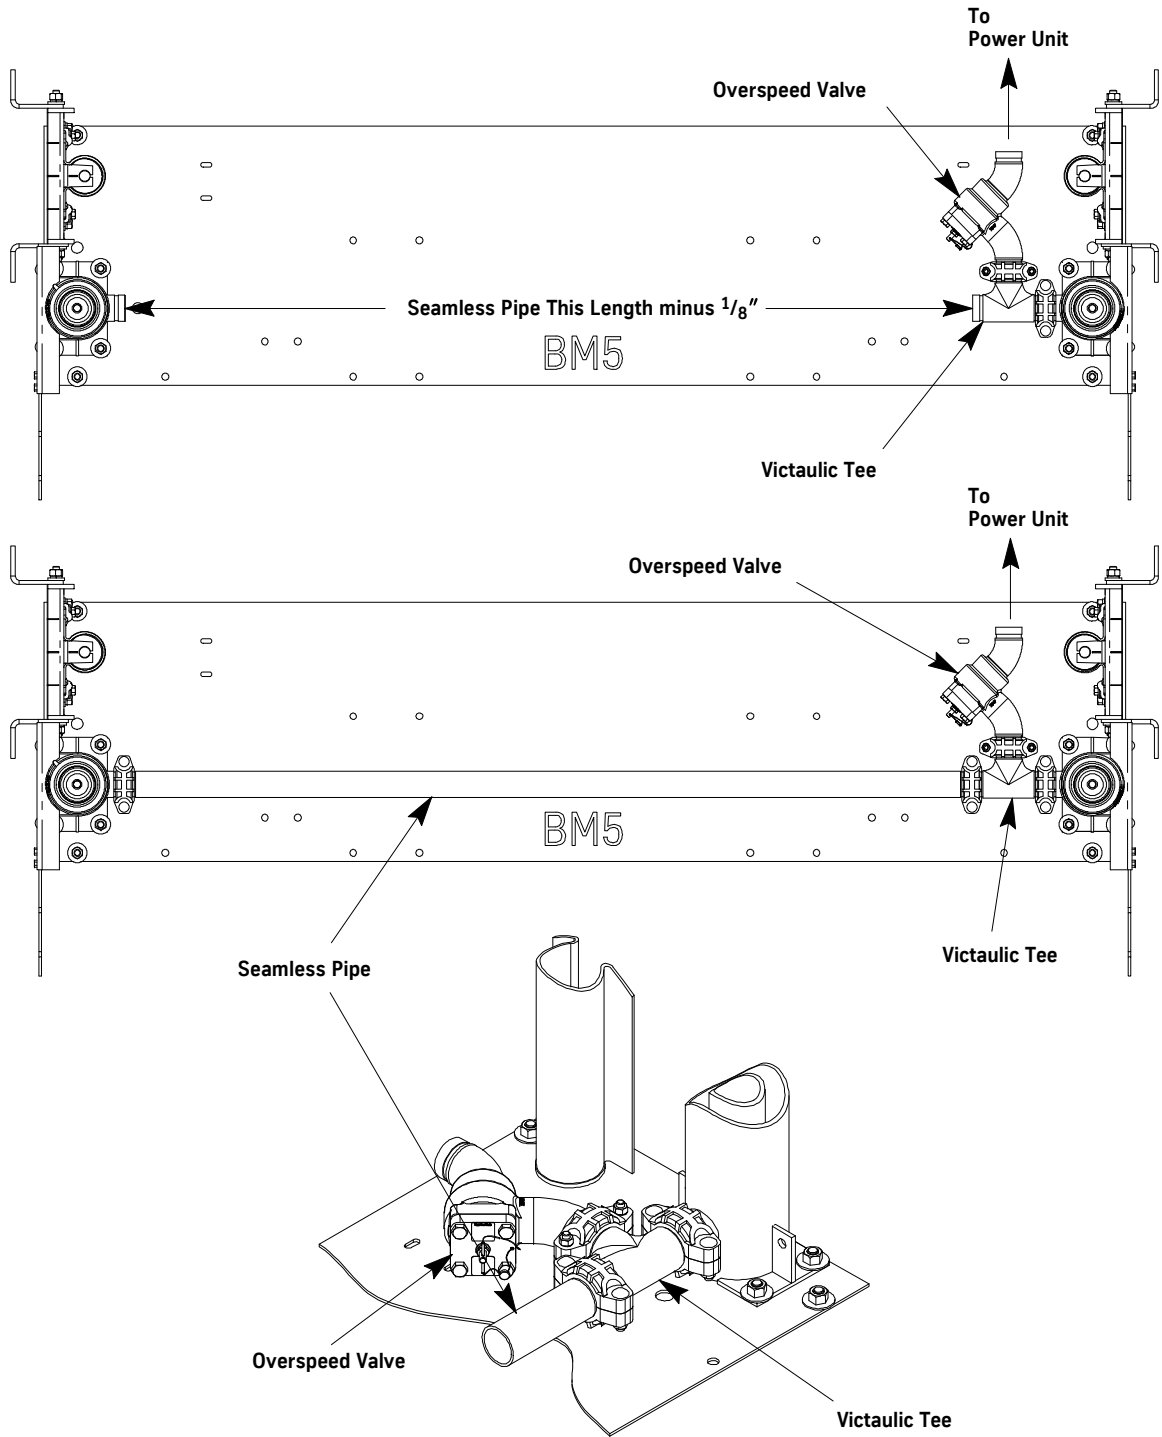

Figure 11 - Piping Between Jacks (Single Stage Shown)
2. Install the Victaulic® “tee” on the jack that is nearest where the oil line enters the hoistway. See Figure 11.
3. Install Victaulic couplings and connect the seamless pipe (provided) from the “tee” to the opposite jack inlet. See Figure 11.
4. Install the overspeed valve to the “tee”. Connect the end labeled “JACK” directly to the “tee”. See Figure 11.